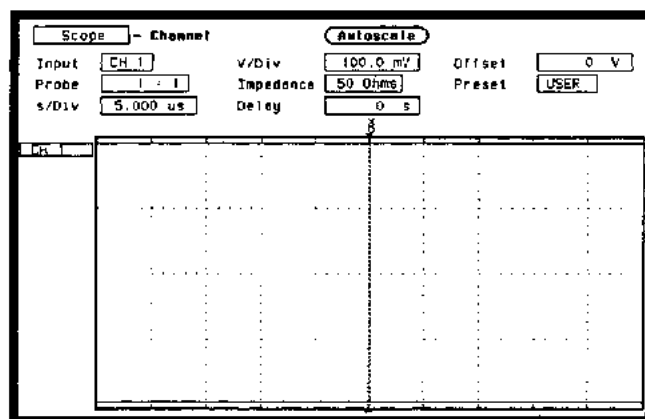

Figure 3-55. Channel Menu Configuration
5. Set the **Input** to **CH 1**, **V/Div** to **100 mV**, **Offset** to **0 V**, **Probe** to **1:1**, **Impedance** to **50 Ohms**, and **s/Div** to **5.0 us** as in figure 3-55.